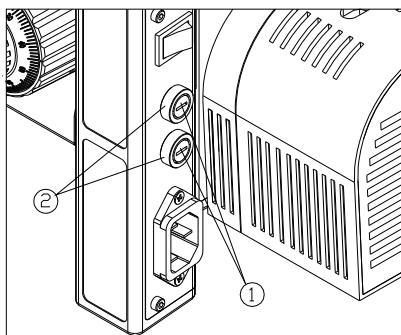

Fig.33
Turn the main switch to "O" (OFF) before replacing the fuse. Pull out the power cord. Then screw off the fuse group ① from the fuse base ② with a "-" type screwdriver. Install a new fuse and screw it in the fuse base (See Fig. 33).